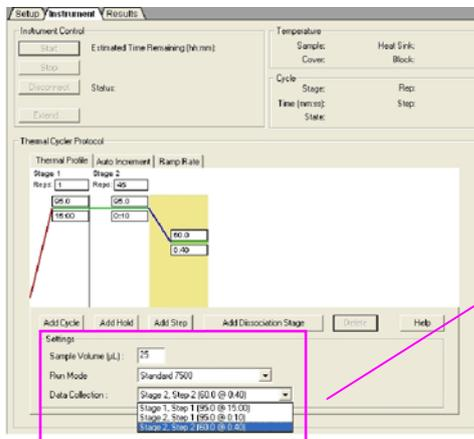

Fig.14
- In **SETTINGS** field enter **25** in **SAMPLE VOLUME (µL)** (Fig.14).